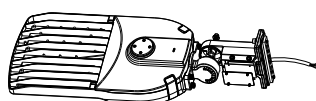

Figure 9
Step 1: Unscrew the bracket mounting screws on the fixture, open the side lid of the bracket, and thread the wires through the bracket. (Figure 9)